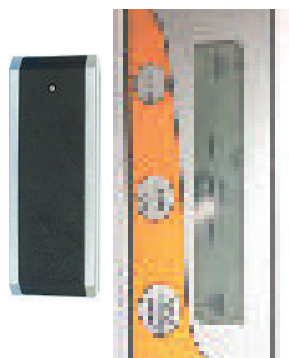

Figure 26
(3) Rotate the protractor to the other vertical surface II on the same benchmark plane, as figure 26, wait 10 seconds and press the “Zero calibration” key again, the LCD will display “-2-“. Wait 2 seconds again, and the instrument will display the angle value.
(4) Turnover the unit on the basis of figure 26 to make it upside down, as figure 27, then press “ Zero calibration” key for more than 3 seconds, the LCD will display “-0-“;